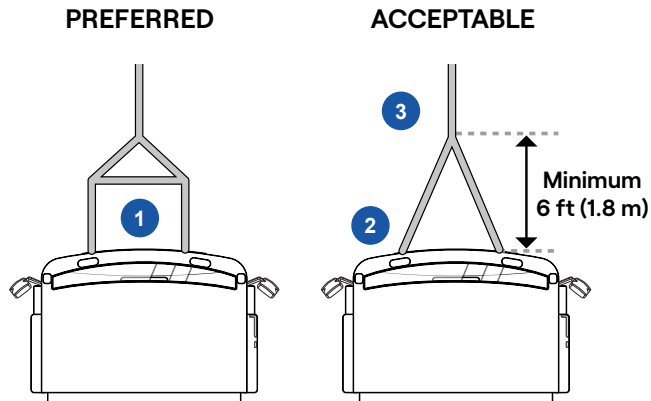

Figure 29 - Recovery options
1. Use double chains or cables to distribute the load evenly between both anchoring points (see either recovery option in **Figure 29**).
3. Use a spreader bar to distribute the load between the two anchoring points (**Figure 29 no. 1**).
4. Without a spreader bar, use two chains or cables at least 6 ft long (**Figure 29 no. 2**) before joining them to the tow truck cable (**Figure 29 no. 3**).